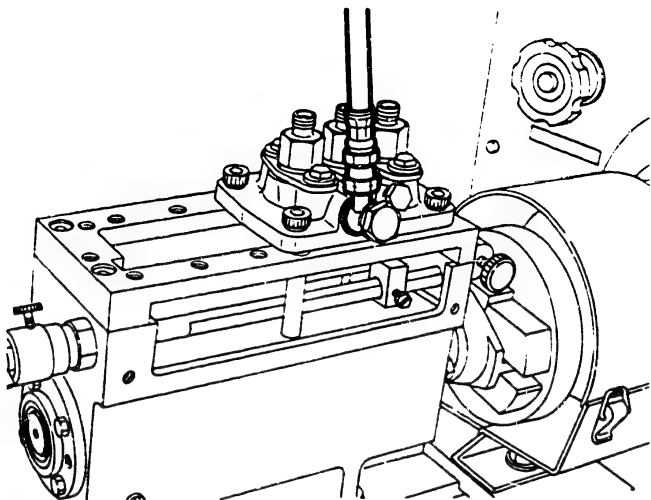

**Fig. 57** Confirming flywheel rotation
6. Securely connect the driving stand's coupling to the pump test stand's coupling. (Figure 57)